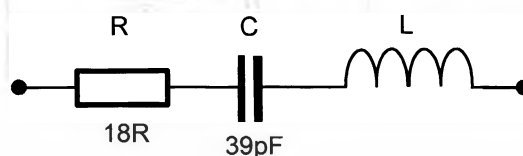

Figure 7
3. What is the value of the inductor in Figure 7 **below** if the circuit's resonant frequency is 4MHz?